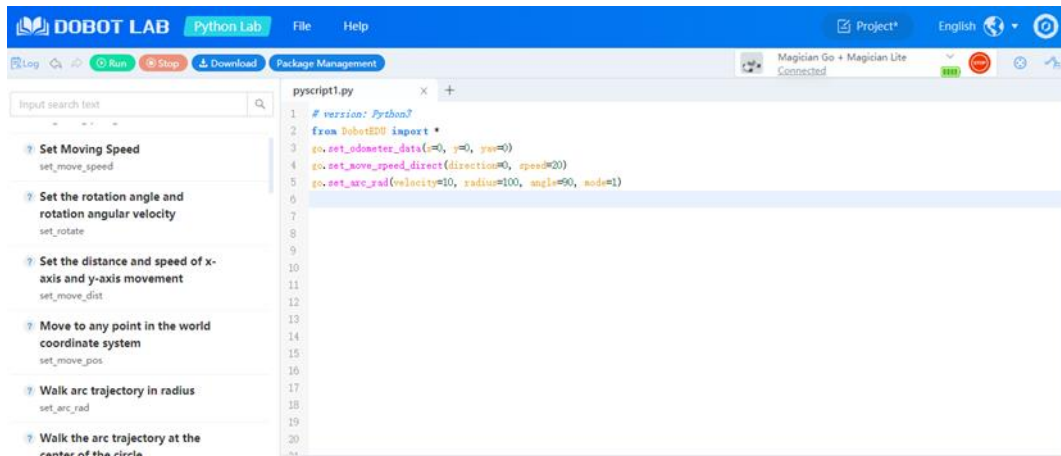

Figure 4.6 Enter LobotLab
Step 4 Enter <https://dobotlab.dobot.cc/> in your browser. Enter DobotLab, as shown in Figure 4.6.